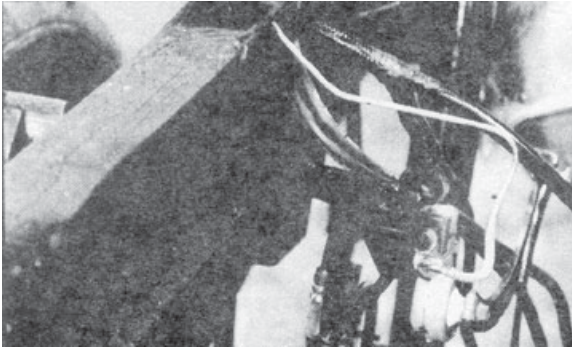

Figure 7-3.
6. Alter the brake proportioning valve only if recommended by the chassis manufacturer. Make the changes in strict accordance with the chassis manufactures instructions. If you have questions about the brake proportioning valve, please contact the chassis manufacturer or dealer. (See Figure 7-3.)